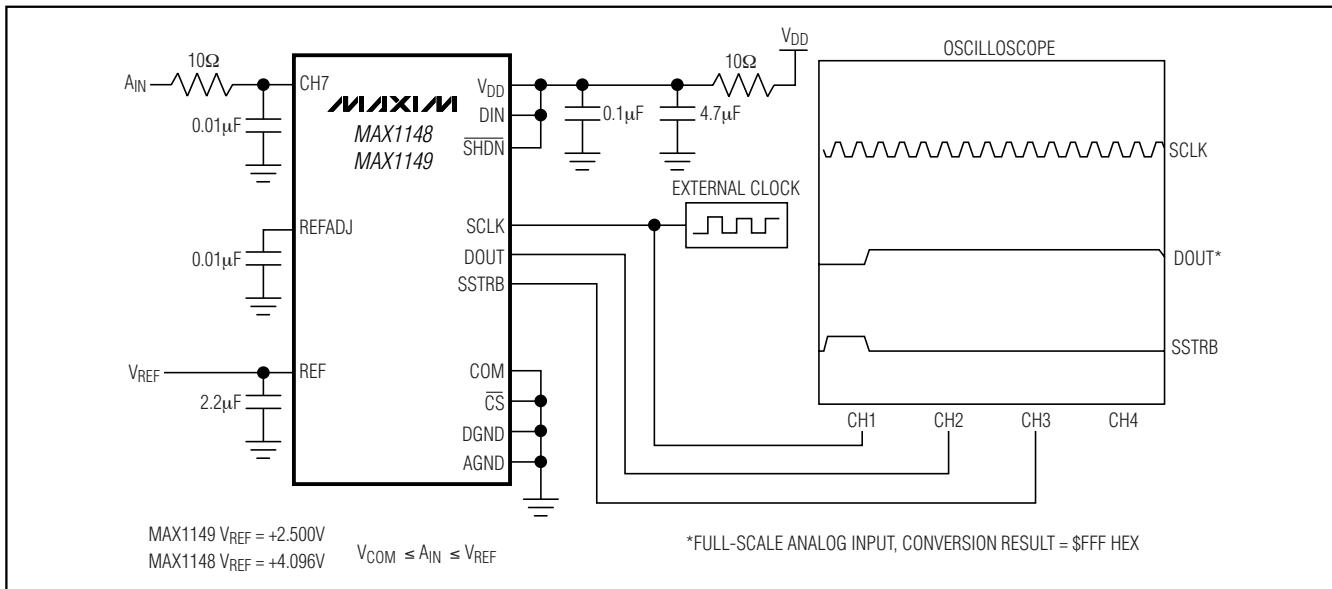
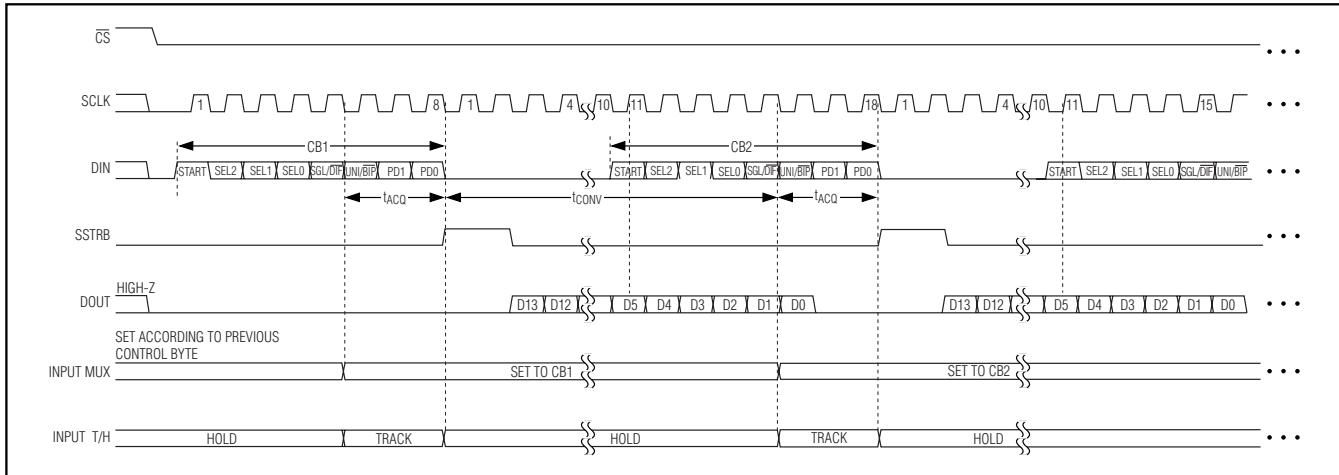

Figure 7. Quick-Look Circuit
Figure 10. External Clock Mode—18 Clocks/Conversion Timing
Use the circuit of Figure 7 to quickly evaluate the MAX1148/MAX1149. The MAX1148/MAX1149 require a control byte to be written to DIN using SCLK before each conversion. Connecting DIN to VDD and clocking SCLK feeds in a control byte of \$FF HEX (see Table 1). Trigger single-ended unipolar conversions on CH7 in external clock mode without powering down between conversions. In external clock mode, the SSTRB output pulses high for two clock periods before the MSB of the 14-bit conversion result is shifted out of DOUT. Varying the analog input to CH7 alters the sequence of bits from DOUT. A total of 18 clock cycles are required per conversion (Figure 10). All transitions of the SSTRB and DOUT outputs occur on the falling edge of SCLK.
- 2) The first high bit clocked into DIN after bit 5 of a conversion in progress is clocked onto DOUT (Figures 10 and 11).
The fastest the MAX1146–MAX1149 can run with  $\overline{CS}$  held low between conversions is 18 clocks per conversion. Figures 10 and 11 show the serial-interface timing necessary to perform a conversion every 18 SCLK cycles.